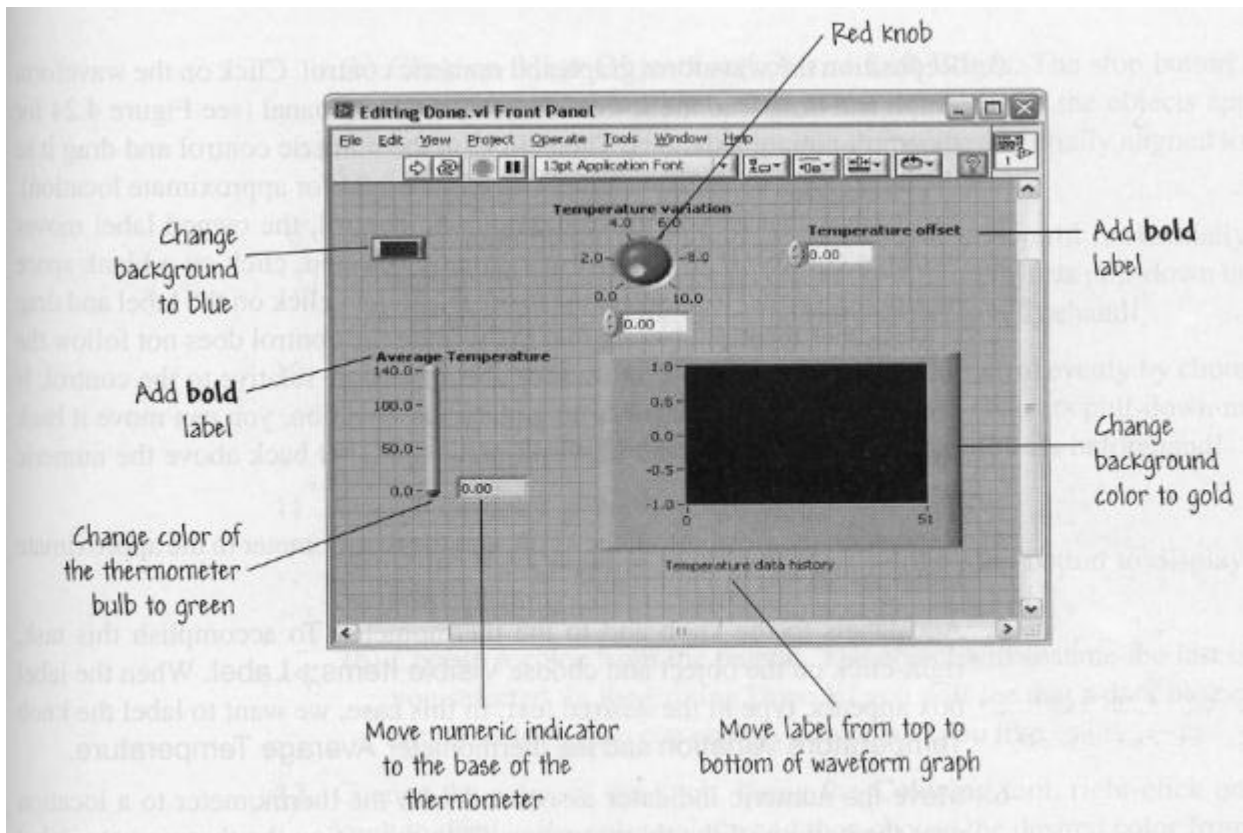
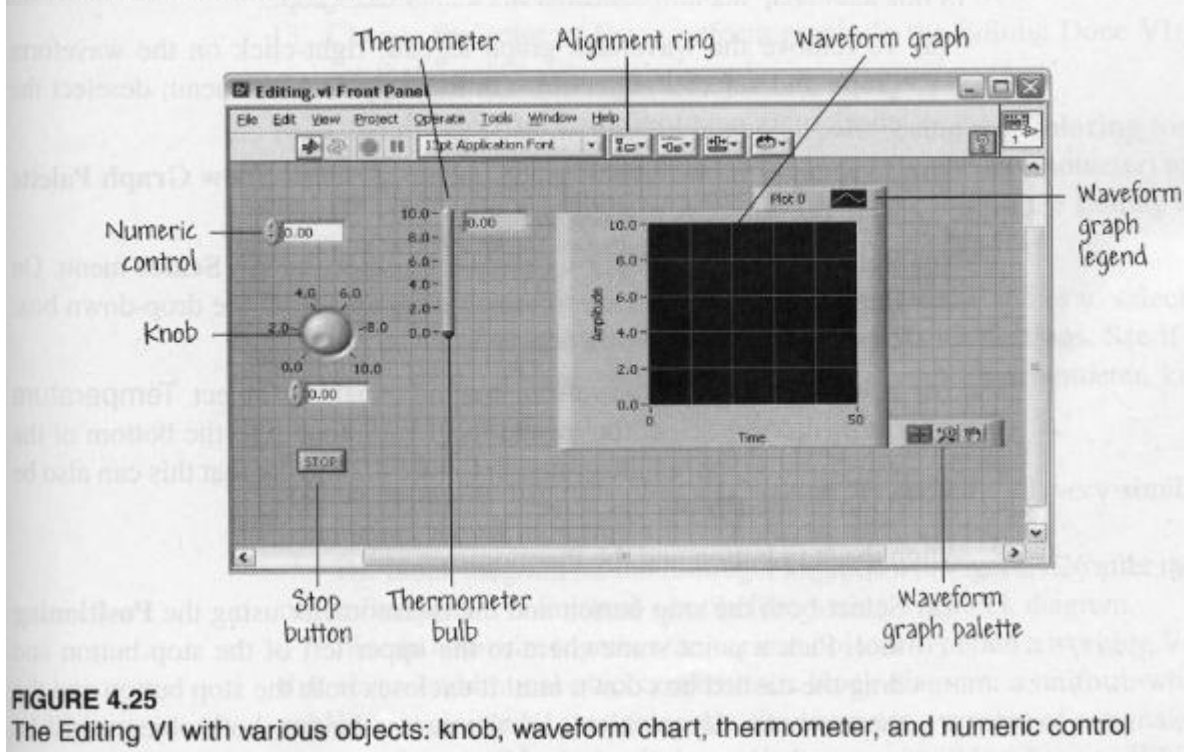

FIGURE 4.24
FIGURE 4.25
In this exercise you will edit and modify an existing VI to look like the panel shown in Figure 4.24. After editing the VI, you will wire the objects in the block diagram and run the program.
The front panel of Editing VI contains a number of objects depicted in Figure 4.25. The objective of this exercise is to make the front panel of the Editing VI look like the one shown in Figure 4.24.
3. Reposition the waveform graph and numeric control. Click on the waveform graph and drag it to the lower center of the front panel (see Figure 4.24 for the approximate location). Then click on the numeric control and drag it to the upper right of the front panel (see Figure 4.24 for approximate location).
4. Reposition the stop button, the knob, and the thermometer to the approximate locations shown in Figure 4.24.
6. Move the numeric indicator associated with the thermometer to a location near the bottom of the thermometer. Then reposition the thermometer label so that it is better centered above the thermometer (see Figure 4.24).
- (d) Add a label to the waveform graph—label the object **Temperature data history**. Select the owned label and move it to the bottom of the waveform graph, as illustrated in Figure 4.24. Note that this can also be done on the **Properties** screen.
At this point, the front panel of the Editing VI should look very similar to the front panel shown in Figure 4.24.